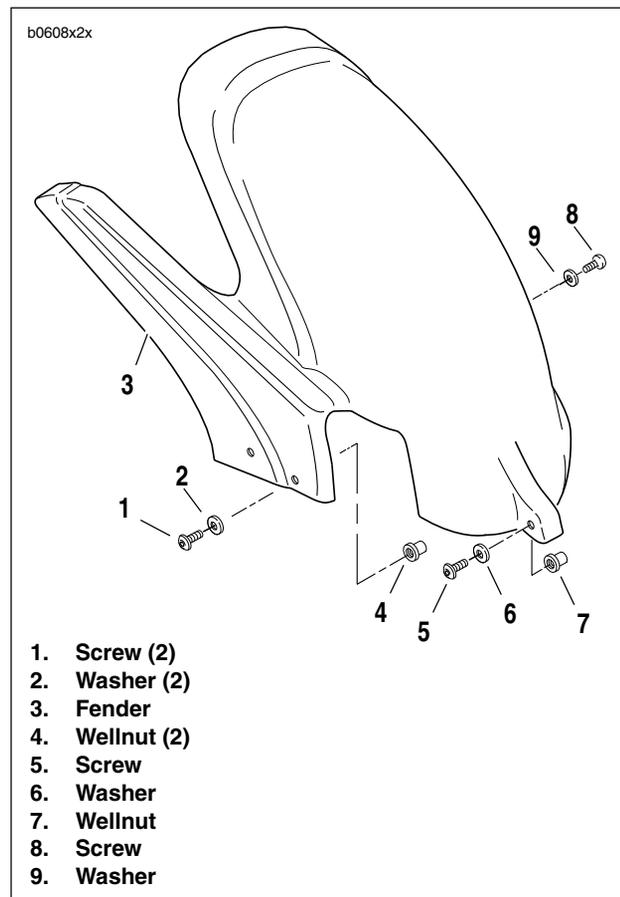

Figure 2-116. Rear Fender
2. See Figure 2-116. Remove two screws (1) and washers (2) from right side wellnuts (4).
3. Remove screw (5) and washer (6) from front wellnut (7).
4. Remove screw (8) washer (9) and clamp from left side.
5. Pull fender (3) over rear tire.
3. See Figure 2-116. Install hardware in reverse order. Apply **LOCTITE THREADLOCKER 243 (blue)** to all screws.